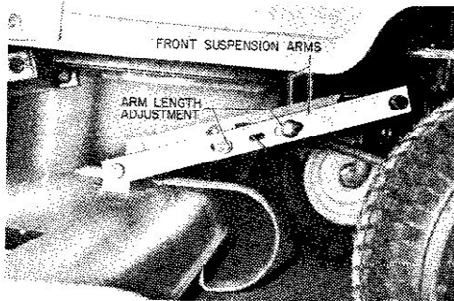

FIG. 17. Front Suspension Arm Assembly
6. Remove the remaining set of suspension arms from the mower deck. Attach them to the front set of suspension pins the same way the rear arms were installed. (See Fig. 17).